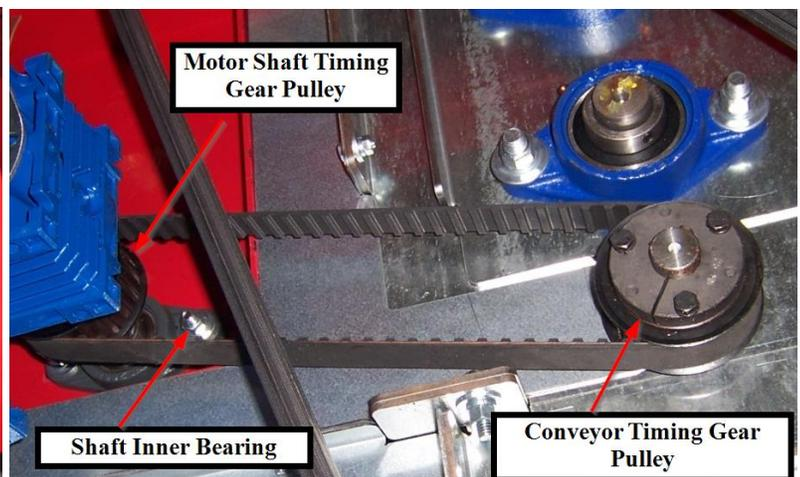

Figure 4
3. Remove conveyor timing gear pulley and taper-lock bushing from conveyor shaft. Place gear aside. Retain bushing and hardware. See Figure 4.
6. Remove motor shaft timing gear pulley and taper-lock bushing from shaft. Place gear aside. Retain bushing and hardware. **See Figure 4.**